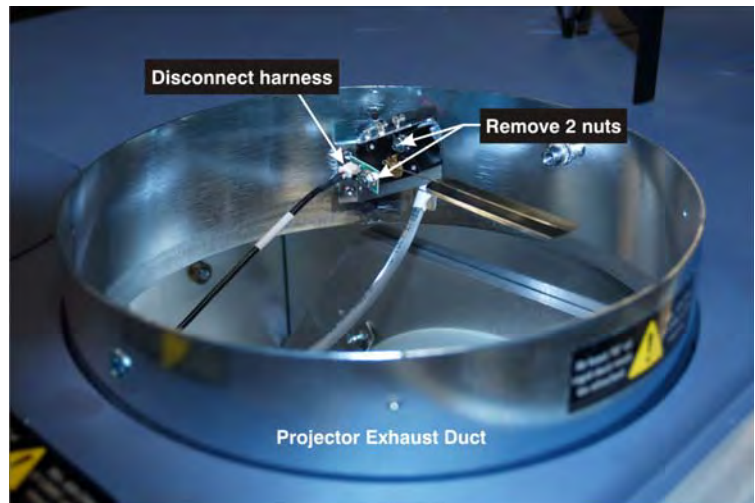

Figure 5-55 Exhaust Duct Vane Switch
4. Remove the two nuts securing the vane switch to the mounting bracket (**Figure 5-55**).